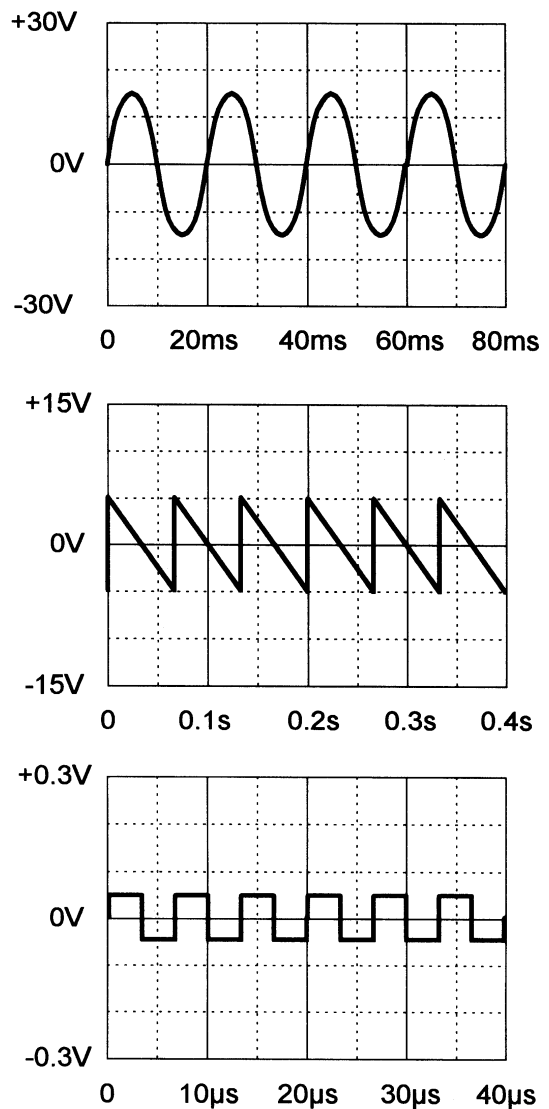

Figure 4.23
- 4.3 Determine the frequency and peak-peak values of each of the waveforms shown in Fig. 4.23.